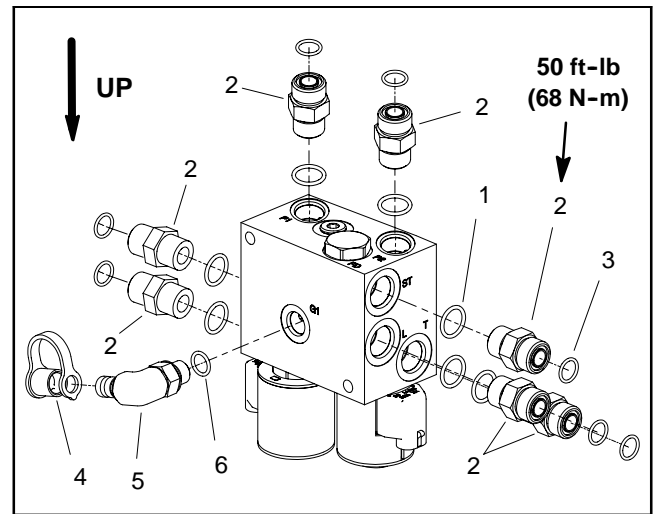

Figure 95
8. If hydraulic fittings are to be removed from fan control manifold, mark fitting orientation to allow correct assembly (Fig. 95). Remove fittings from manifold and discard O-rings.
1. If fittings were removed from fan control manifold, lubricate and place new O-rings onto fittings. Install fittings into manifold ports using marks made during the removal process to properly orientate fittings. Tighten fittings (see Hydraulic Fitting Installation in the General Information section of this chapter). Refer to Figure 95 for fitting installation torque.